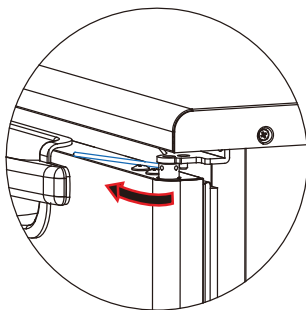

Fig 9-30
4. Turn the stick in the direction of the arrow until the next hole is visible. Avoid dropping or losing the pin. (Fig 9-30)